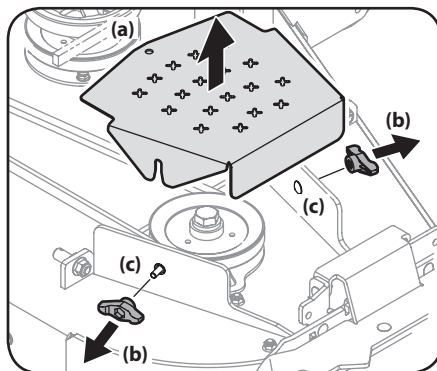

Figure 4-16
3. To remove the belt covers (a), remove the wing knobs (b) from the carriage screws (c) securing it to the deck. See Figure 4-16.
4. The speed nut should hold the carriage screw (c) and tab bolt in place, if not re-install as shown in Figure 4-16.